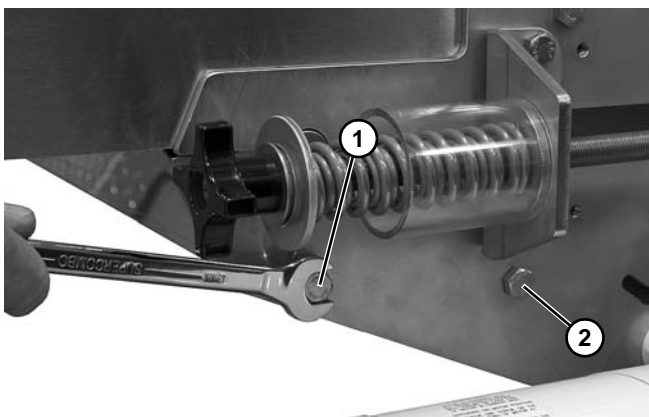

Figure 103
3. Remove bolt (Figure 103, item 1) from each side of the center drive from the idler guard assembly.
4. Loosen bolt (Figure 103, item 2) on each side of the center drive.